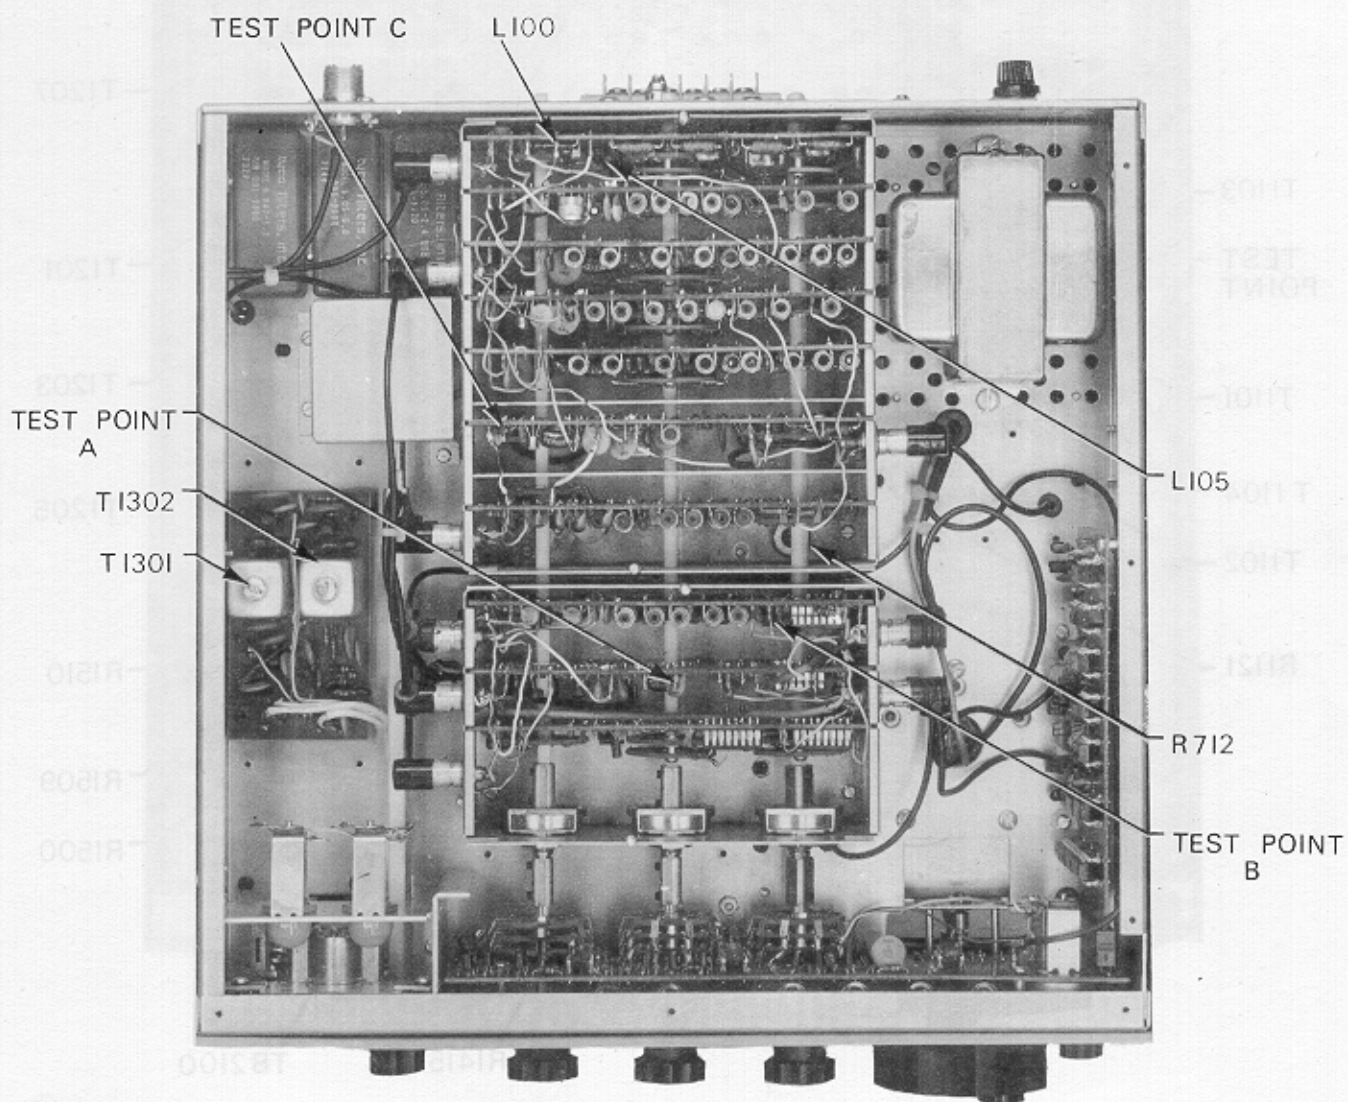

Figure 5-5. Top View with Covers Removed
- b. Refer to figure 5-5. Adjust the BFO transformer T1301 on the outside of the board for maximum DC voltage. This tunes the detector for the normal SSB channel.
- a. Refer to figure 5-5. Set the 0.1 MHz frequency switch to display 0.9 and adjust the variable resistor R712 on the VCO board for 9.5 volts as measured at the ring of the variable resistor.
h. Place a scope probe on test point A shown in figure 5-5 on the Control Line board and refer to the sawtooth waveform shown in the lower right hand corner of the Synthesizer schematic figure 5-34. A small horizontal step should appear approximately 1/3 of the way up on the leading edge of every other cycle.
- a. Refer to figure 5-5. Attach an RF probe to test point B on the Balanced Mixer card.